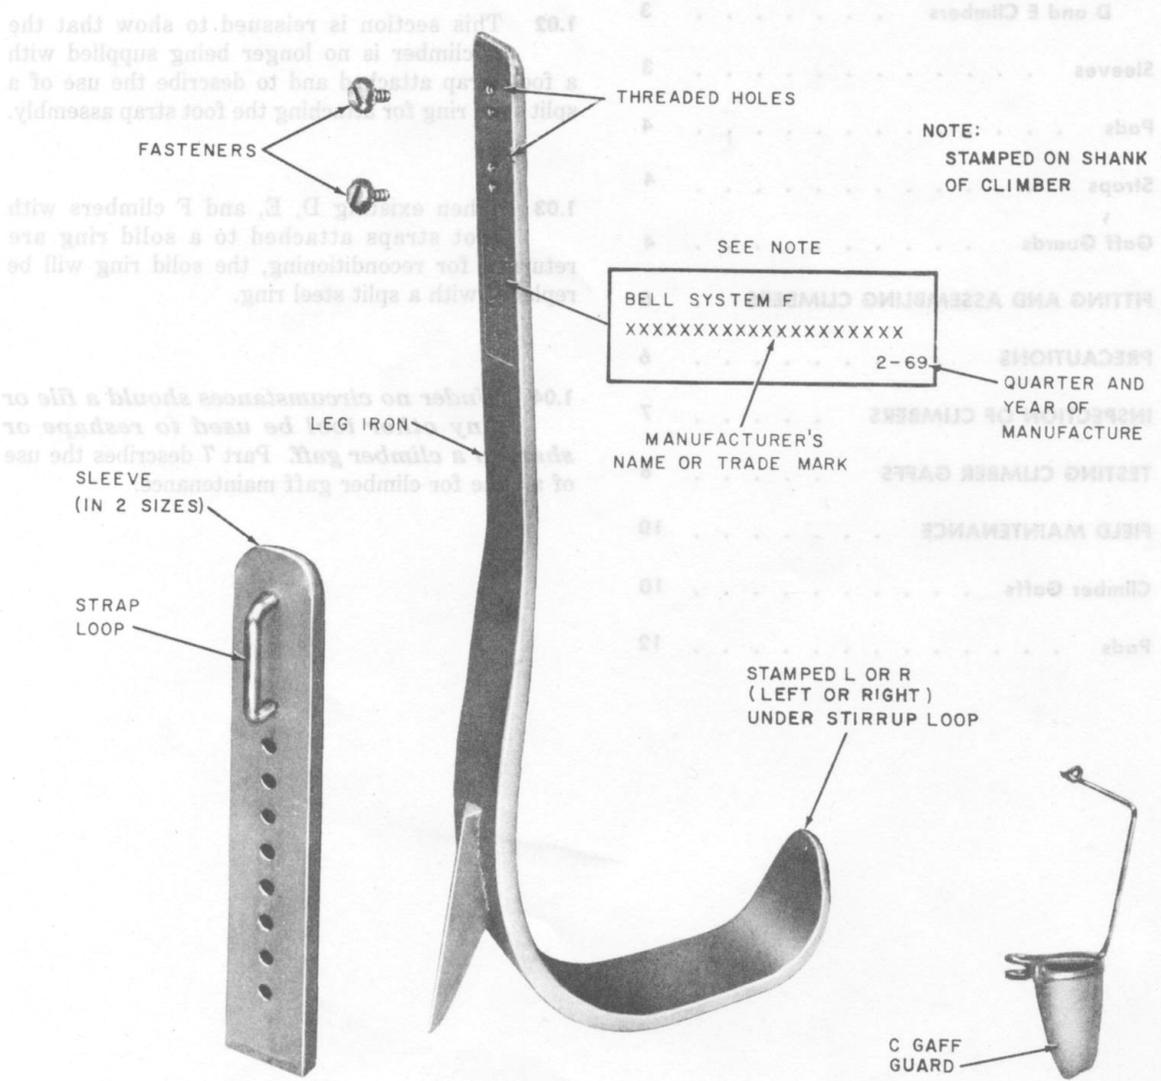

Fig. 1—Parts For F Climber
2.01 The F climber is an adjustable length climber that consists of a leg iron, an adjustable sleeve, fasteners, and gaff guards. The parts of an F climber are shown in Fig. 1.